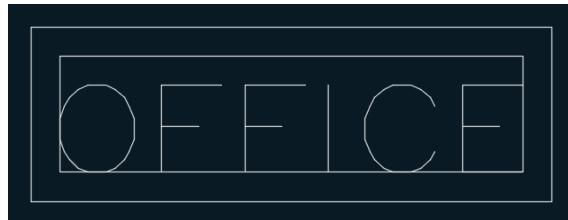

FIGURE 10.4 Making single-line text fit within a predefined space
- Type **OFFICE**, and press Enter twice. The TEXT command ends and the single line of text appears on the drawing canvas (see Figure 10.4).